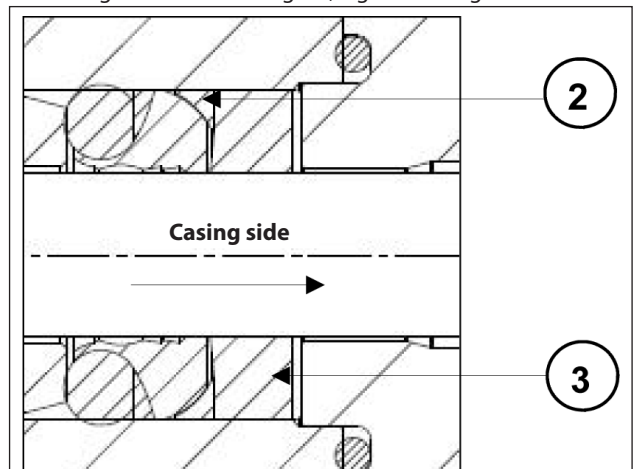

Fig. 61
- Insert the anti-extrusion ring ② and the gasket bush ③ arranged as shown in Fig. 59, Fig. 60 and Fig. 61.
The gasket bush ③ must be introduced into the liner with the outlets facing outwards (casing side) as shown in Fig. 60 and in Fig. 61.